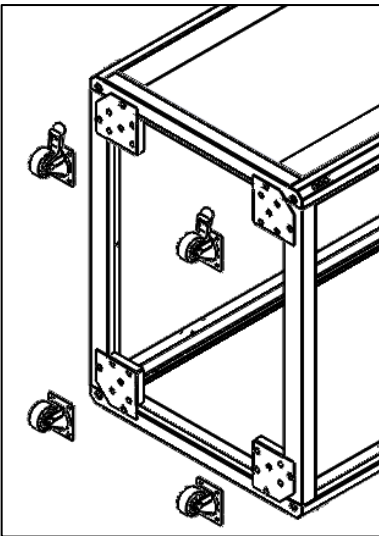

Figure 11
Place the Wheels on the bottom as Shown on the **Figure 11** and Tighten M6x15 JMT Screws (C)